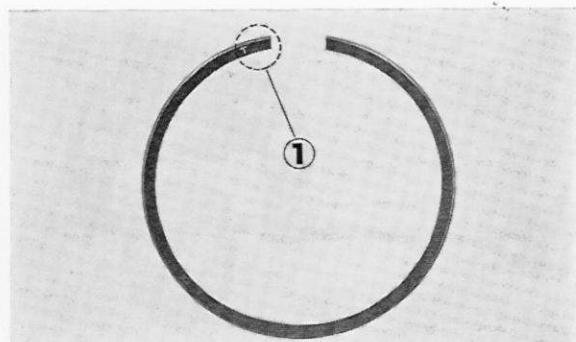

Fig. 2-32 ① Manufacturers mark
- The ring must have the maker's mark on the ring toward the top. (Fig. 2-32)